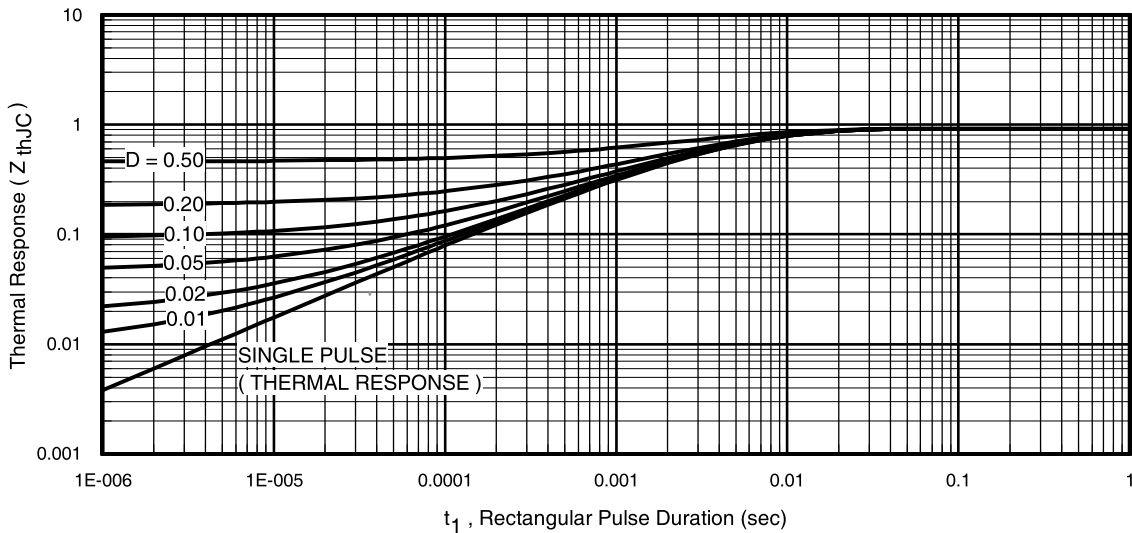
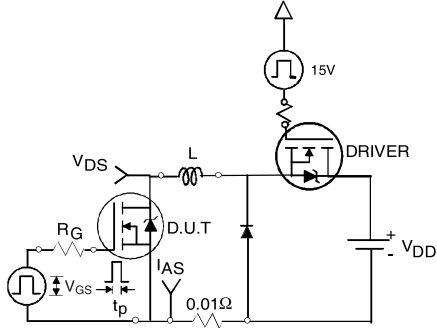

Fig 11. Maximum Effective Transient Thermal Impedance, Junction-to-Case
Fig 12a. Unclamped Inductive Test Circuit
- ① Repetitive rating; pulse width limited by max. junction temperature. (See fig. 11).
- ② Limited by T_{Jmax} , starting $T_J = 25^\circ\text{C}$, $L = 0.27\text{mH}$, $R_G = 25\Omega$, $I_{AS} = 35A$, $V_{GS} = 10V$. Part not recommended for use above this value.
- ③ $I_{SD} \leq 35A$, $di/dt \leq 380A/\mu s$, $V_{DD} \leq V_{(BR)DSS}$, $T_J \leq 175^\circ\text{C}$.
- ④ Pulse width $\leq 1.0\text{ms}$; duty cycle $\leq 2\%$.
- ⑤ $C_{oss\ eff.}$ is a fixed capacitance that gives the same charging time as C_{oss} while V_{DS} is rising from 0 to $80\% V_{DSS}$.
- ⑥ Limited by T_{Jmax} , see Fig.12a, 12b, 15, 16 for typical repetitive avalanche performance.
- ⑦ This value determined from sample failure population. 100% tested to this value in production.
- ⑧ This is applied to D²Pak, when mounted on 1" square PCB (FR-4 or G-10 Material). For recommended footprint and soldering techniques refer to application note #AN-994.
3. Equation below based on circuit and waveforms shown in Figures 12a, 12b.
$Z_{thJC}(D, t_{av})$ = Transient thermal resistance, see figure 11)